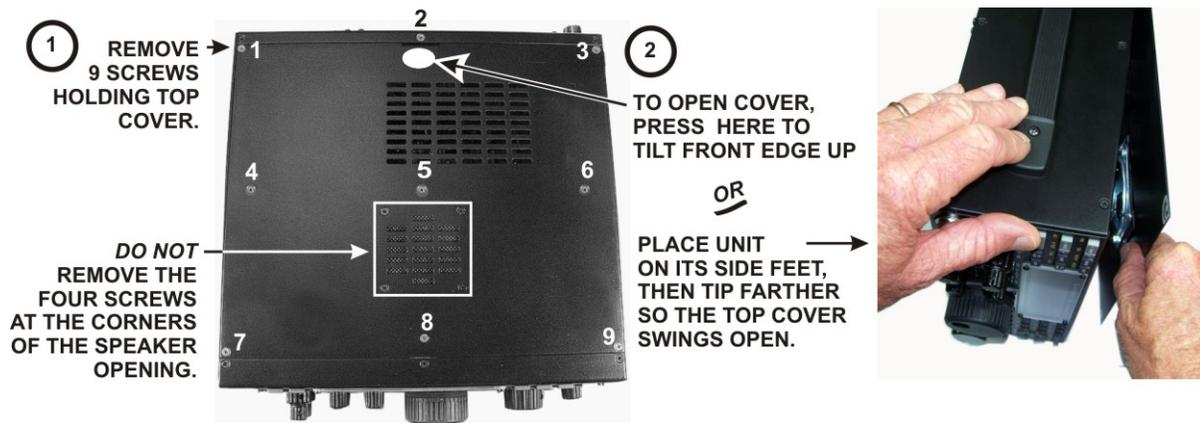

Figure 1. Removing K3 Top Cover.
Noise Figure:	1 dB typical
- Remove the nine screws to free the top cover as shown in Figure 1. After the cover is open, lift it gently to reach the speaker wire connector. Unplug the speaker then set the top cover aside in a safe place.
Position the top cover on the K3. Note that the tab on the back center goes under the rear lip of the K3 rear panel. Secure the top cover with the nine 4-40 3/16" (4.8 mm) black flat head screws you removed earlier (see Figure 1 on page 9 for the screw locations).